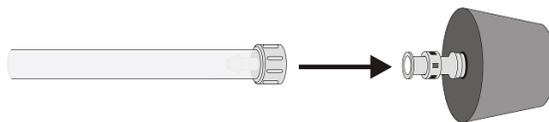

Figure 1
- Prior to students arriving for class, connect the piece of thick-wall plastic tubing and rubber stopper assembly to the end valve of the Gas Pressure Sensor with a gentle half turn. During the Procedure, students will connect the other end of the plastic tubing to a single-hole rubber stopper using one of the tapered, ribbed valves included with a Gas Pressure Sensor (see Figure 1). If the single-hole rubber stopper that came with the valve is the wrong size for your bottle, the tapered valve can be pulled out of the stopper and pushed into a stopper that fits the bottle.